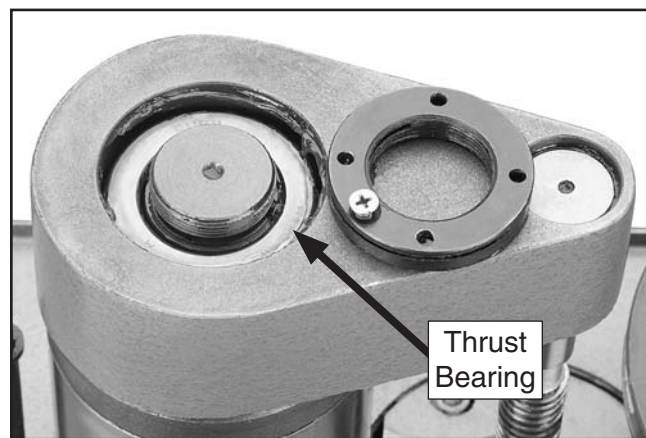

Figure 97. Mill column thrust bearing with retaining ring removed.
9. Clean away any debris and built-up grime from around the thrust bearing shown in **Figure 97**, then add NLGI #2 grease to the top and sides of the bearing.